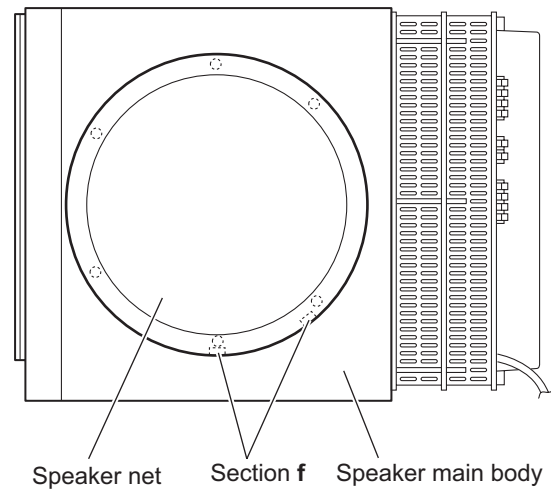

Fig.12
3.3.9 Removing the speaker net (See Figs.12 and 13)
- (1) Insert the tip of a flat-bladed screwdriver or similar tool into the space between the speaker main body and speaker net, and lift the speaker net little by little to remove. (See Figs.12 and 13.)